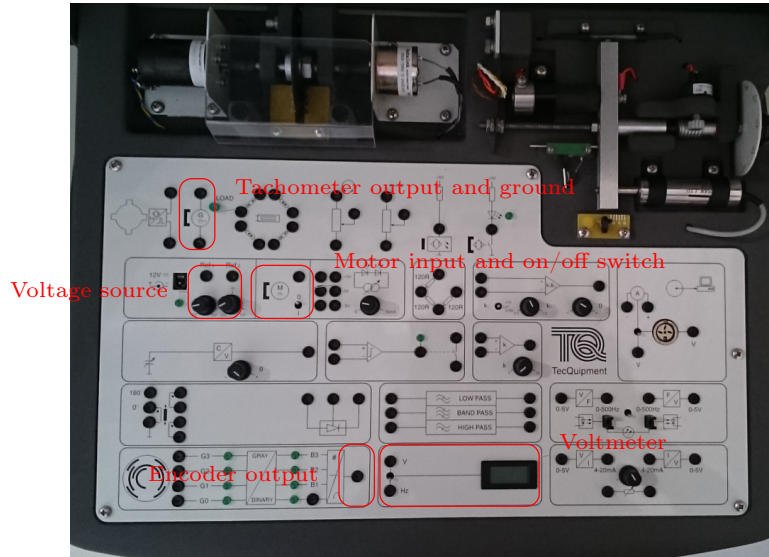

Figure 1: Relevant parts of the experimental device.
**Physical setup** We will use a laboratory setup from TecQuipment consisting of a DC motor with sensors for angular velocity (tachometer) and angular position (optical encoder). The setup is contained in a black suitcase and can be checked out at the counter in the laboratory. See figure 1